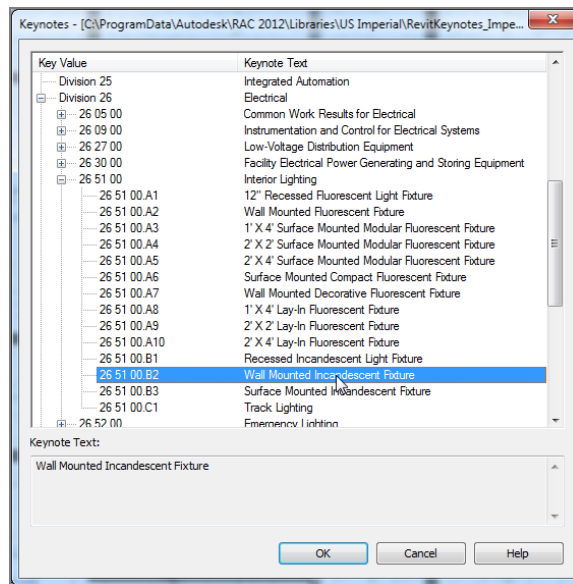

FIGURE 11.87: Selecting the proper keynote value for the sconce
After you pick the third point, Revit displays the Keynotes menu shown in Figure 11.87. Follow these steps to place the keynote value into the sconce family:
3. Go to the group 26 51 00.B2 Wall Mounted Incandescent Fixture, as shown in Figure 11.87.